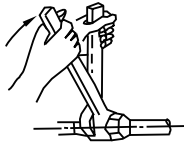

Fig. 7-3
- Put the connection piping at the correct position, fasten the nuts with your hand before using a wrench. (Refer to Fig.7-3)